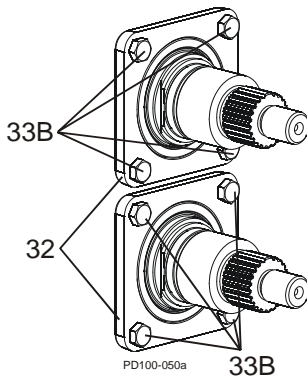

Figure 39 - Remove Bearing Retainers
- Remove the front bearing retainer bolts (Figure 39, item 33B) and pull off the bearing retainers (item 32). (If a retainer is stuck, leave it in place; it will press out when the shaft is removed.)